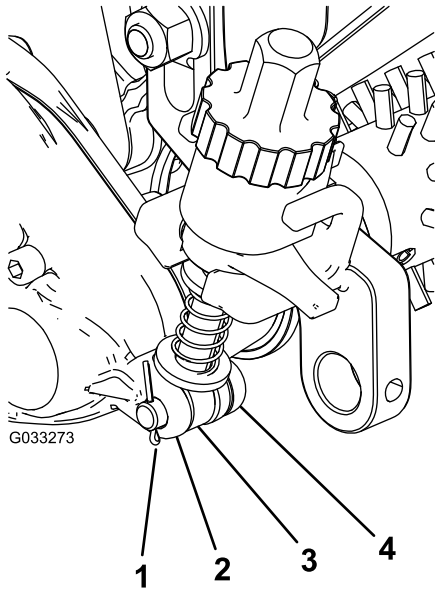

Figure 22
3. Slide the adjuster-arm assembly rod near the groomer drive box into the gap on the drive box and secure it with an adjuster pin and cotter pin (Figure 22).